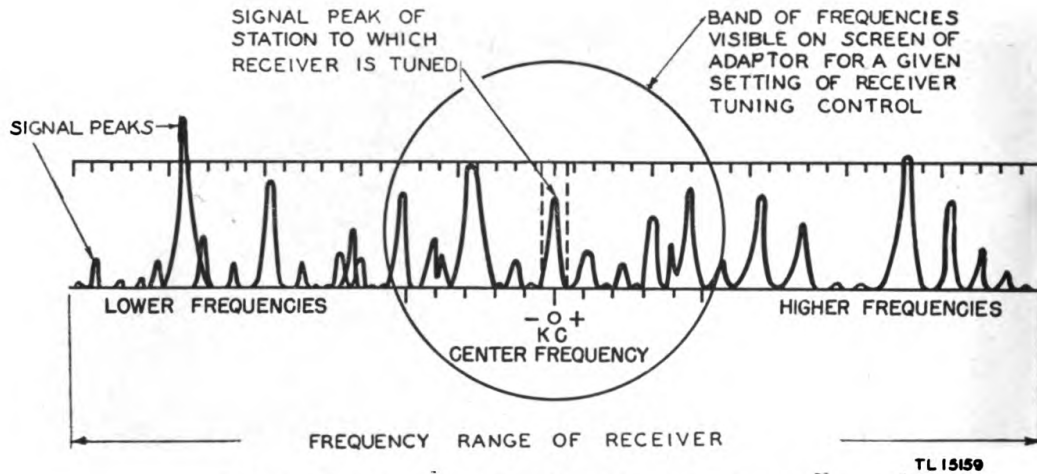

Figure 3. Portion of radio-frequency spectrum.
(baseline) of the screen, *frequencies* are shown, and on the vertical axis, *signal amplitudes* are shown (fig. 3).
a. Spectrum. The entire strip in figure 3 represents the portion of the radio-frequency spectrum covered by the tuning of the receiver.
(1) The circle in the center represents the frequency range or band visible on the screen of the panoramic adaptor.